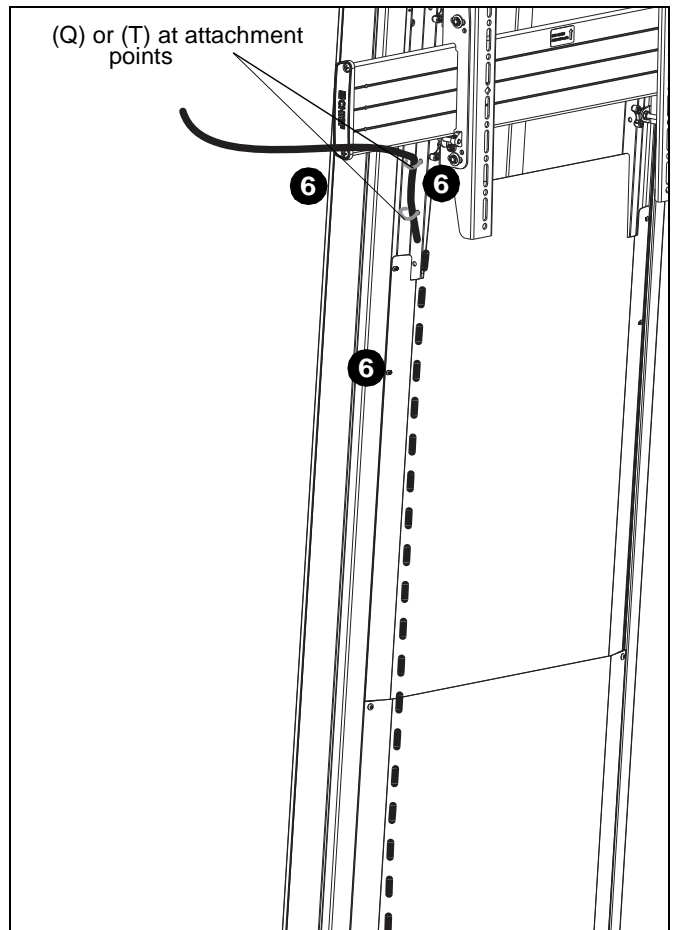

Figure 19
6. Route cables from display through inside of column assembly attaching at cable management attachment points and/or accessory bracket using cable ties (Q) or cable clips (T) as desired. (See Figure 19)